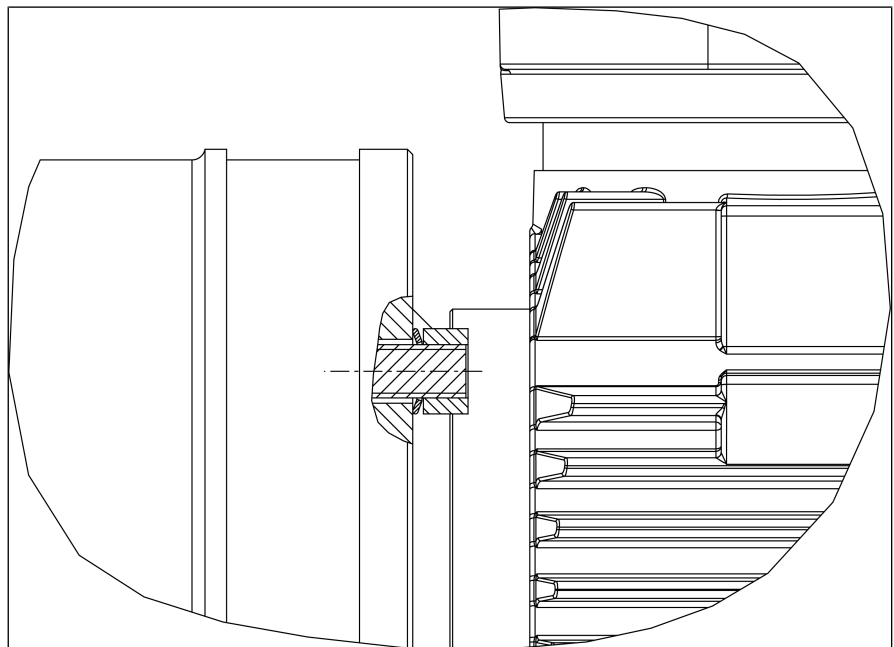

Fig.21 Alignment of the ribbed disk (2)
1. Align the motor-side (5) and pump-side coupling halves (6) with one another.
2. Place the motor (3) on the compressor housing (7).
**i** Centering is performed using the four stud bolts (8) in the flange of the compressor housing (7) as well as the previously inserted sprocket.
3. Check whether the flange surface of the motor (3) and the flange surface of the compressor housing (7) lie properly on top of one another.
4. Push the 4 ribbed disks (2) onto the stud bolts (8).
**i** Make certain that the inner diameter of the ribbed disk (2) lies against the nut (1) and the outer diameter lies against the motor flange (3) (see Fig. 21).